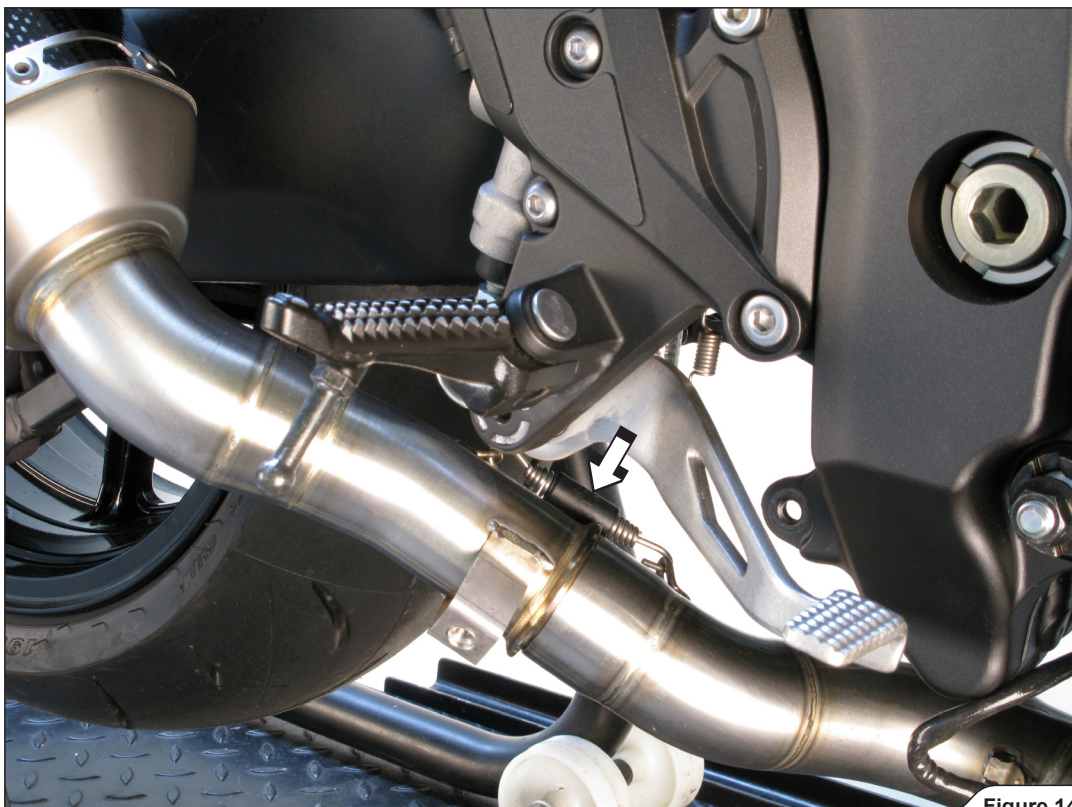

Figure 14
7. Slide the mufflers' inlet pipes all the way into the collector outlets, attach the springs from Akrapovič installation kit and hand tighten the muffler clamps to the brackets, using stock bolts and nuts (**Figure 14**).